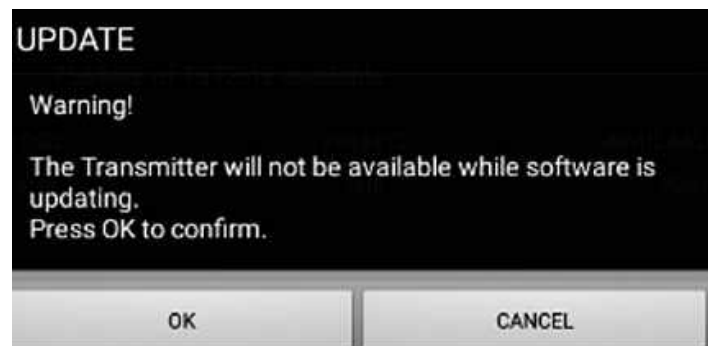

Figure 122: Update confirmation screen
5. At the screen shown in Figure 122 below, click the OK button to confirm the update and continue.